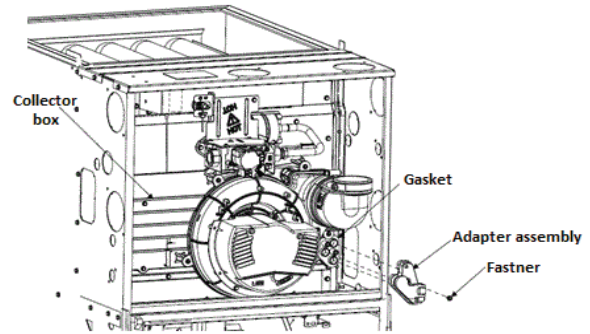

Fig. 14 – Upflow Example of Trap Adapter Installation
1. Install trap adapter to the collector box using provided 5/8" (16 mm) machine screw (see Fig. 14).
Install trap adapter to the collector box using provided machine screw (see Fig. 14).